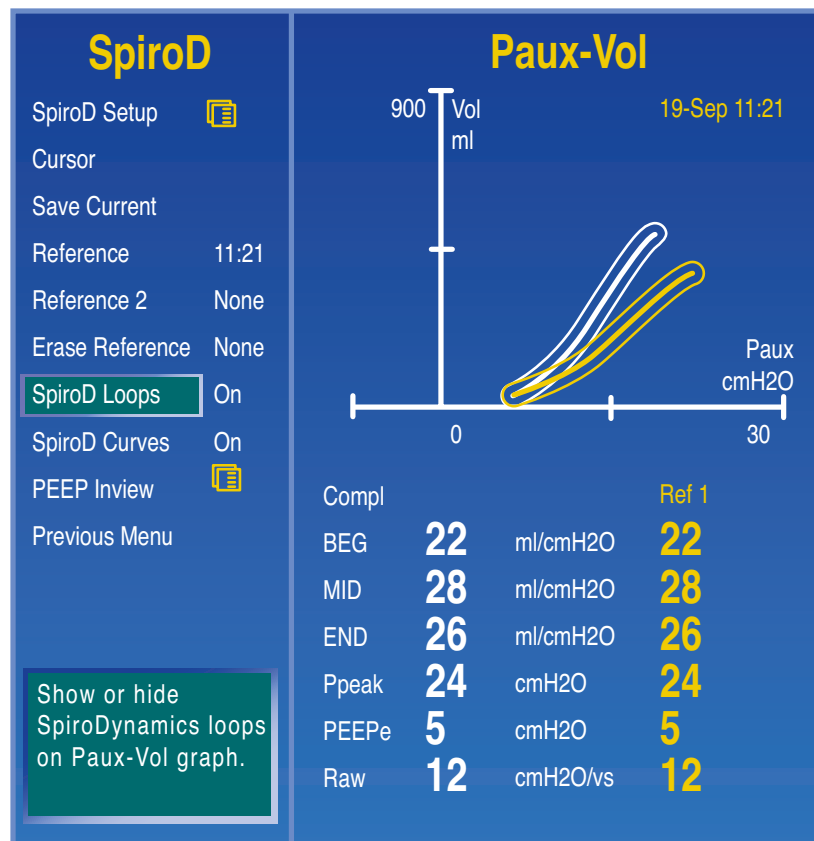

Figure 3.13 SpiroD Menu
1. Attach the intratracheal catheter connector to the auxiliary pressure port on the system. See figure 3.13.